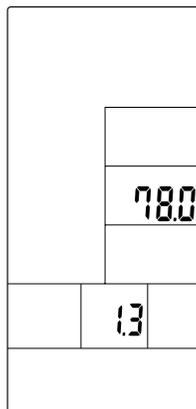

Figure 2
2. The display will show "Diameter 1" in the DISTANCE area (see Figure 2).